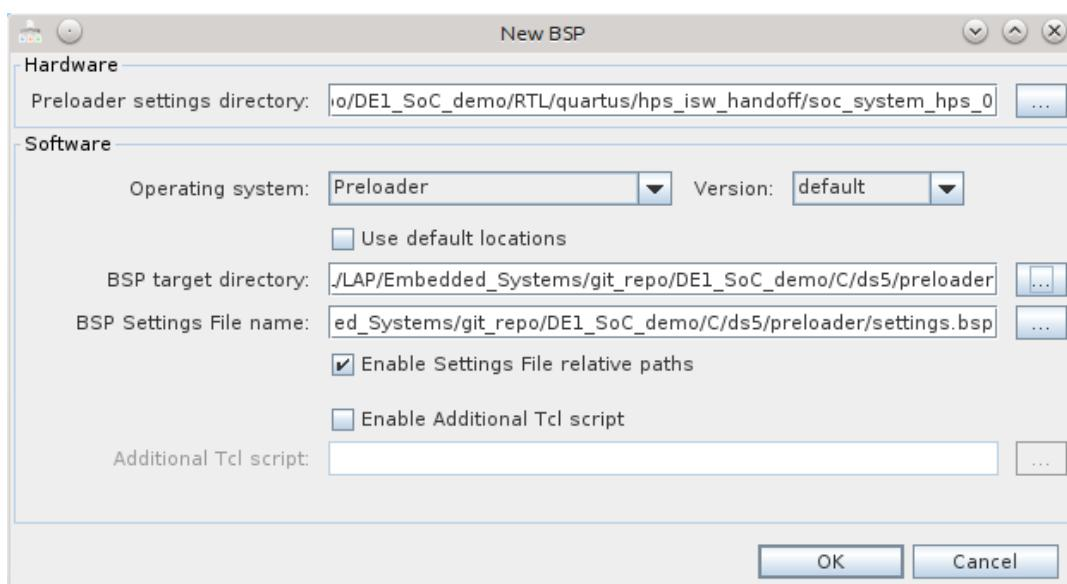

Figure 8-26. New BSP Dialog
- b. Disable the “Use default locations” checkbox and under the “BSP target directory”, select the “DE1_SoC_demo/C/ds5/preloader” directory. You should have something similar to Figure 8-26.